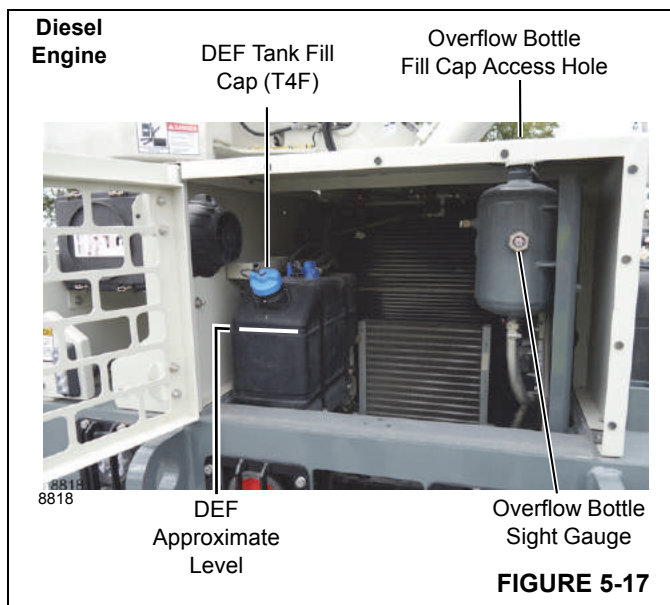

FIGURE 5-17
2. For Diesel Engine (Figure 5-17):
With the T4F engine ignition switch on, the DEF (diesel exhaust fluid) level should be between the **E** and **F** marks on the gauge cluster in the operator cab. If, during operation, the amber DEF low indicator light comes on, fill the DEF tank (Figure 5-17) with DEF as specified in the engine manual.